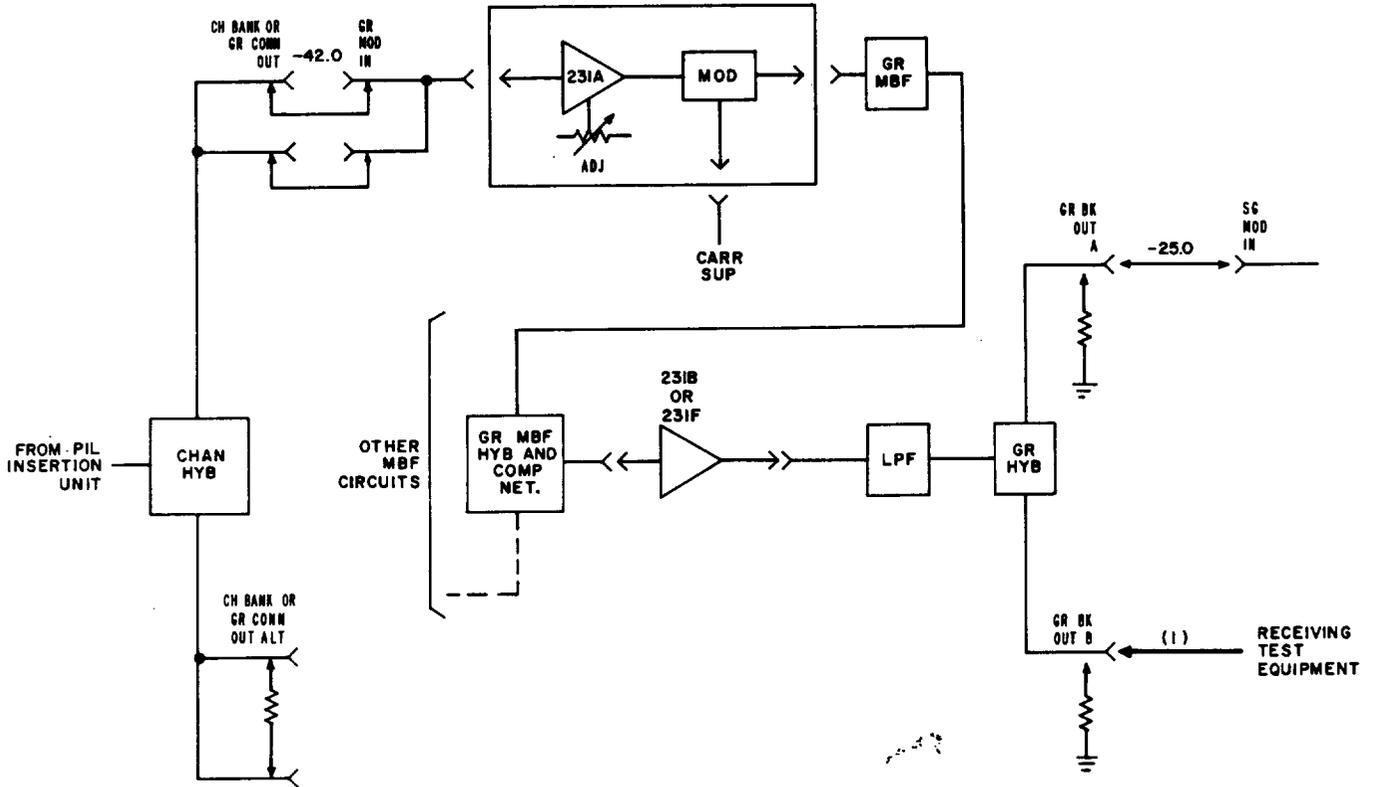

Fig. 2—Group Modulator In-Service Gain Adjustment
- 2 Connect the RTE to the GR BK OUT B jack [patch (1), Fig. 2].